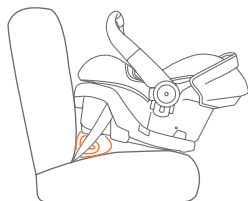

Fig. 53-1
- If seat angle adjuster feature does not adjust enough to provide the proper angle of recline, place a rolled towel, or pool noodle, under the base at the foot end to achieve the correct position (Fig. 53-1).